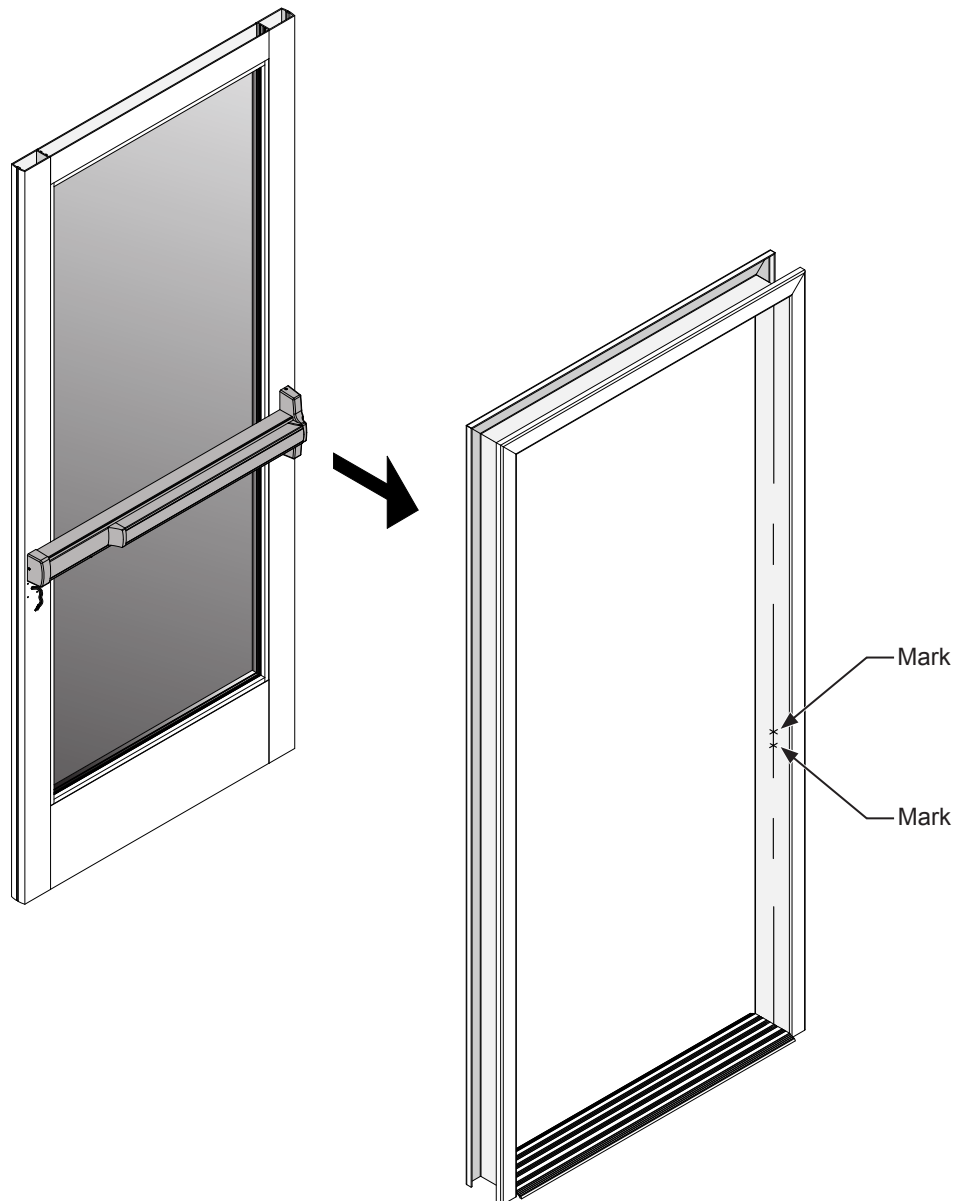

FIG. 12
3. Position the Strike over the center line and mark the screw hole locations. **(Fig. 12)**